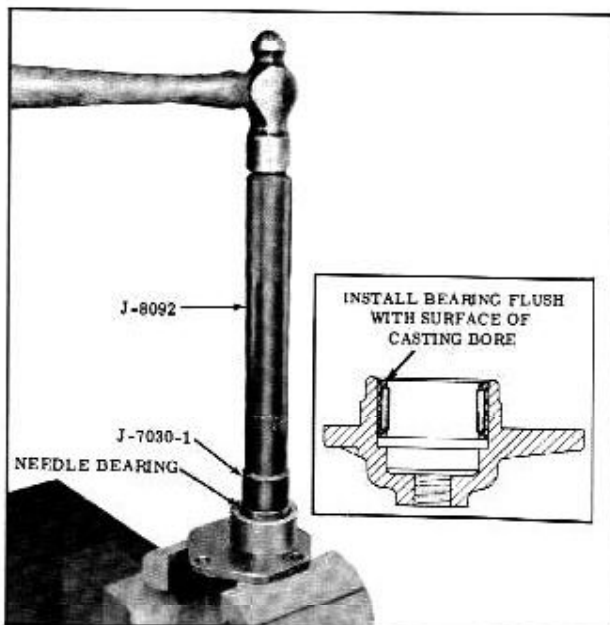

Fig. 4-10 Installing Needle Bearing
1. If needle bearing was removed, position new bearing on side cover with manufacturer's identification facing out, and drive needle bearing flush with surface of casting bore using Tool J-7030-1 and driver handle J-8092. (Fig. 4-10) Pack bearing with SAE 80 Multi-Purpose Gear Lubricant.